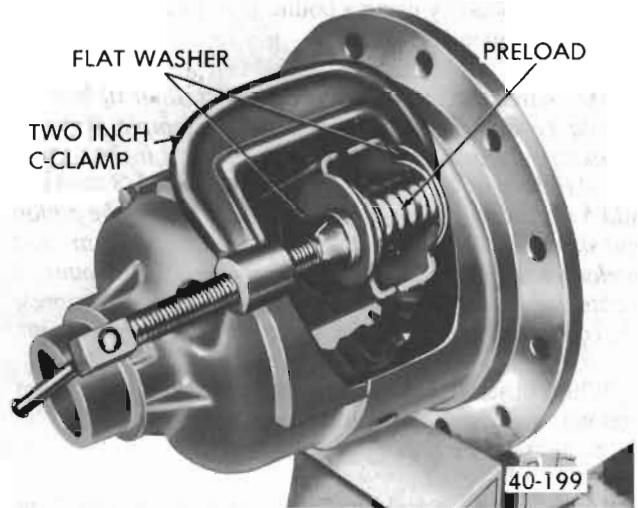

Figure 40-140 Compressing Preload Springs
7. Remove cross shaft. Drive preload spring into position between the side gears. See Figure 40-140.